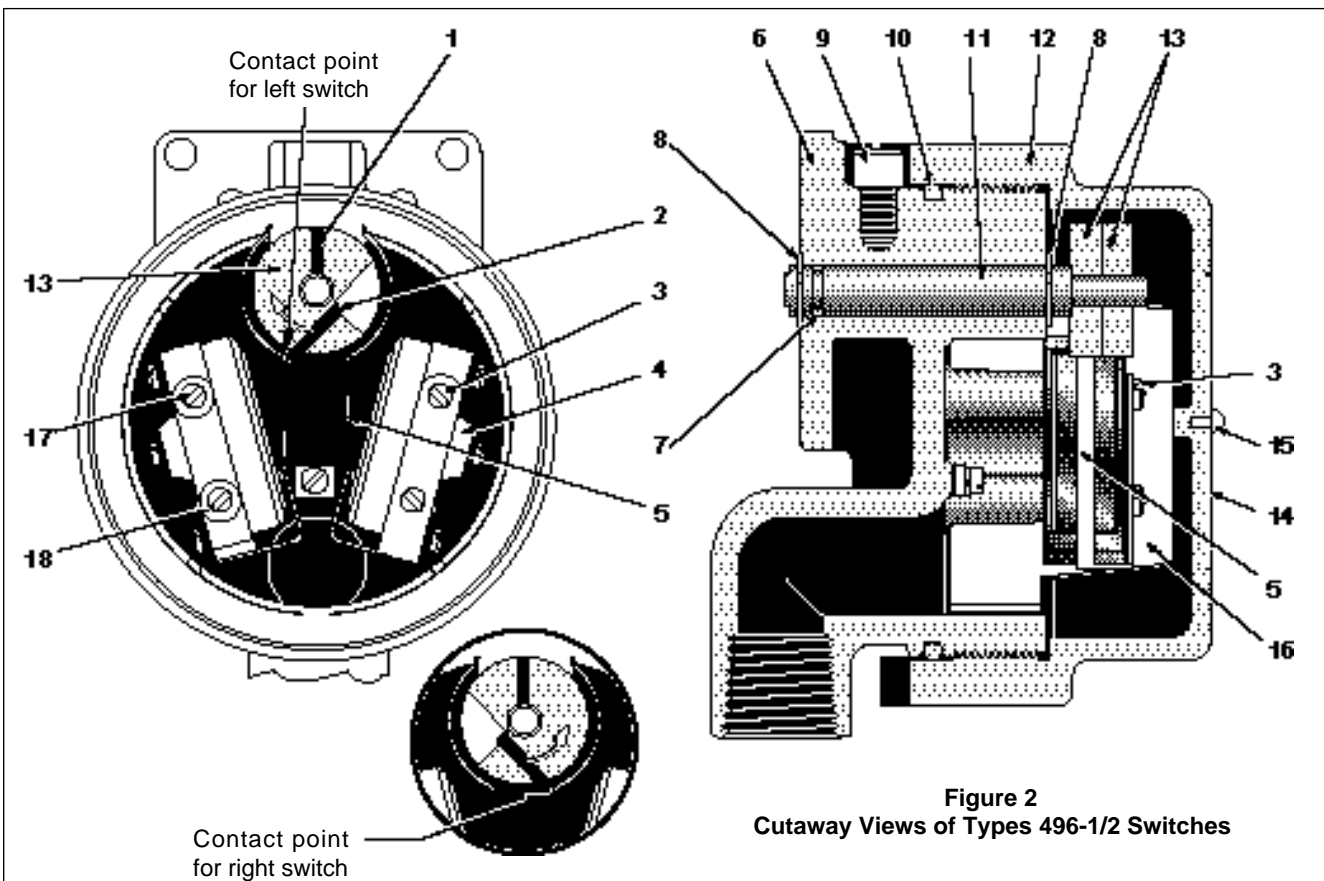

Figure 2
## Description (Figure 2)
## Operation (Figure 2)
2. Unscrew slightly the cam locking screws (1) using a 3/32" Allen wrench.
4. It is important to note that **the cam operating the right-hand switch should make contact with lever (5) only at the end of a counterclockwise rotation.** (Refer to detail of the Figure 2).
This assures that when the valves is throttling, the screw (2) is completely free of the lever. The concave part of the lever is only to maintain contact during over-travel (if any). Similarly, **the cam operating the left-hand switch should make contact with lever (5) only at the end of a clockwise rotation.** (Refer to face view of the Figure 2).